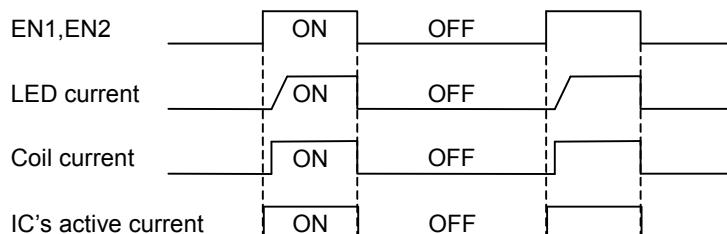

Figure 8. Power control PWM control
2) Power control PWM control is controlled by providing PWM signal to EN1, EN2 as it is shown Figure 8. The current setting set up with PWM logic is chosen as the H section and the current is off as the L section. Therefore, the average LED current is increasing in proportion to duty cycle of EN1, EN2 signal. This method is, because IC can be power-off at off-time, the consumption current can be suppress, and the high efficiency can be available, so it makes it possible to brightness control until 50μs (MIN1% at 200Hz). And, don't use for the brightness control, because effect of power ON/OFF time changeover is big under 50μs ON time and under 50μs OFF time. There is no effect of ON/OFF changeover at 0% and 100%, so there is no problem on use. Typical PWM frequency is 100Hz to 1kHz.